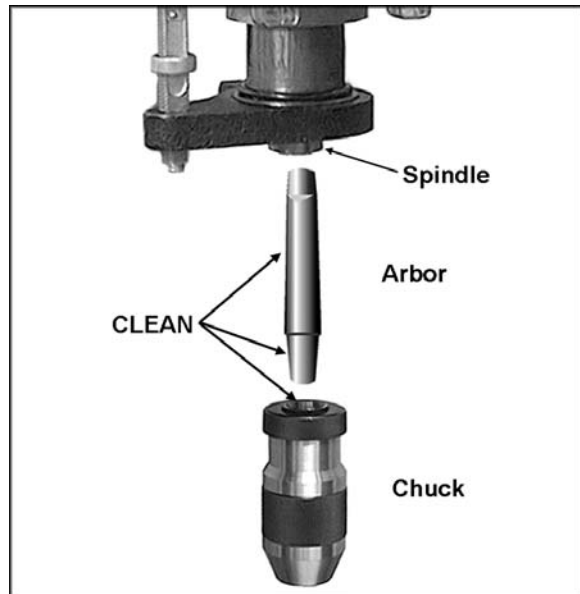

Figure 10
Referring to Figure 10:
2. Thoroughly clean the entire arbor and the inside of the chuck (Figure 10) with a soft rag and solvent such as mineral spirits. Any grease or residue in these areas can cause the pieces to separate and create a safety hazard as well as damage to the tool.